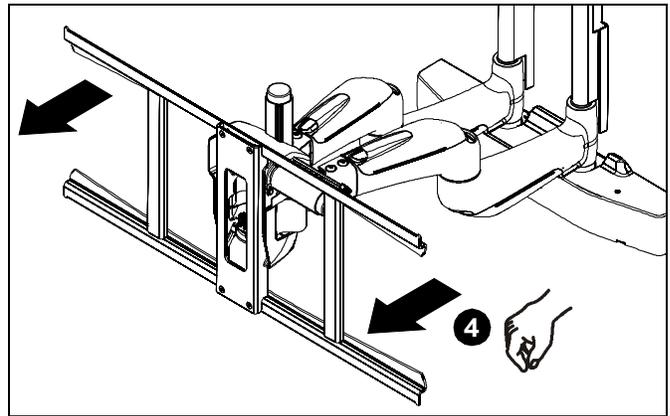

Figure 16
4. Carefully pull PXR arms out from PAC502. (See Figure 16)